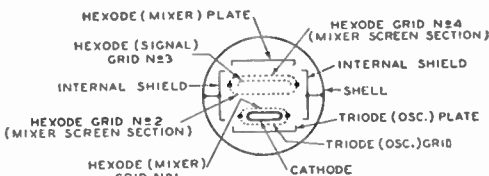

Fig. 64
Another method of frequency conversion utilizes a separate oscillator having its grid connected to the No. 1 grid of a mixer hexode. A tube utilizing this construction is the 6K8; a top view of its electrode arrangement is shown in Fig. 64. The cathode, triode grid No. 1, and triode plate form the oscillator unit of the tube. The cathode, hexode mixer grid (grid No. 1), hexode double-screen (grids Nos. 2 and 4), hexode mixer grid (grid No. 3), and hexode plate constitute the mixer unit. The internal shields are connected to the shell of the tube and act as a suppressor for the hexode unit. The action of the 6K8 in converting a radio-frequency signal to an intermediate frequency depends on (1) the generation of a local frequency by the triode unit, (2) the transferring of this frequency to the hexode grid No. 1, and (3) the mixing in the hexode unit of this frequency with that of the rf signal applied to the hexode grid No. 3. The 6K8 is not critical to changes in oscillator-plate voltage or signal-grid bias and, therefore, finds important use in all-wave receivers to minimize frequency-shift effects at the higher frequencies.